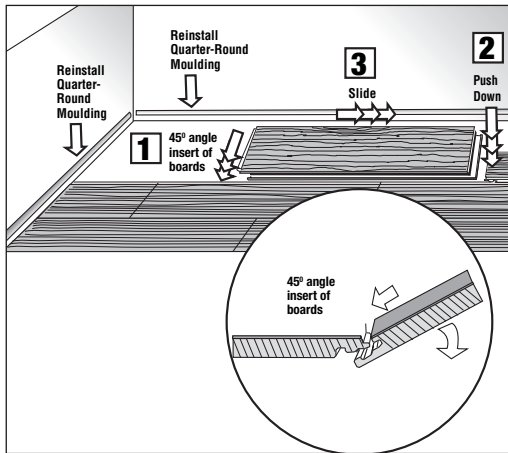

Fig. 43
3. Replace the damaged board with a new one. Reassemble the floor (Fig. 43).